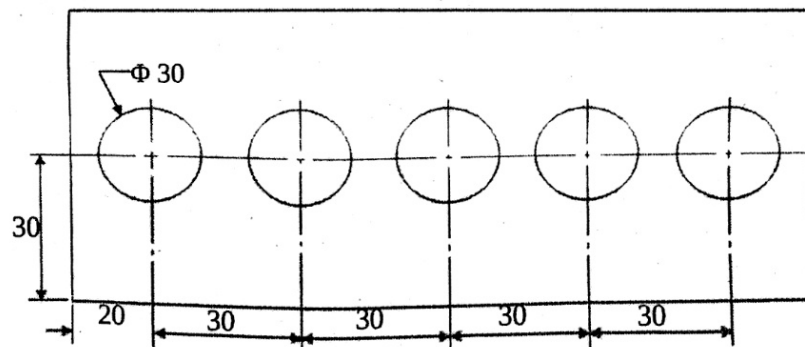

Fig. No. 1
- c) Construct a part programme for the following component using do-loops shown in Fig. No. 1 (All dimensions are in mm)